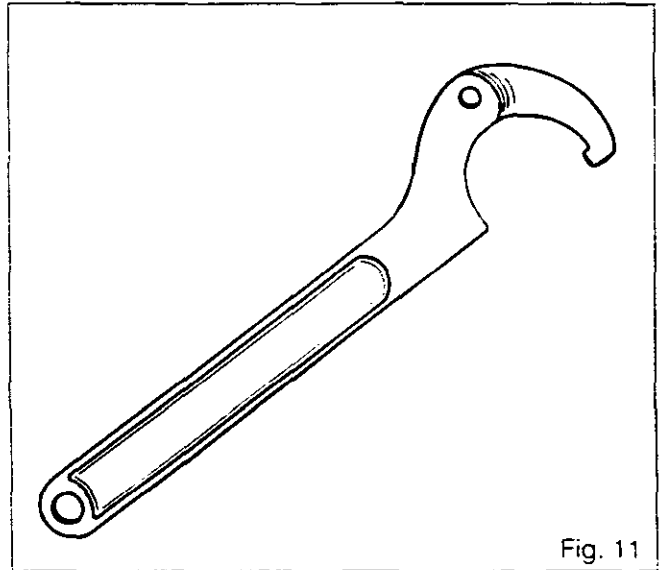

Fig. 11
- 37. Unlock the nut (1) and untighten it with Facom spanner n° 125-80 or equivalent (Fig. 11).
- 38. Remove the bevel gear pinion (39) together with the bearing cone (10).
- 39. **Front axles category 2.5 and 3:** Remove the O-ring (41).
- 40. Remove the bearing cone (10) of the bevel drive pinion.
- 41. Remove the cup (9) and the shims [8].